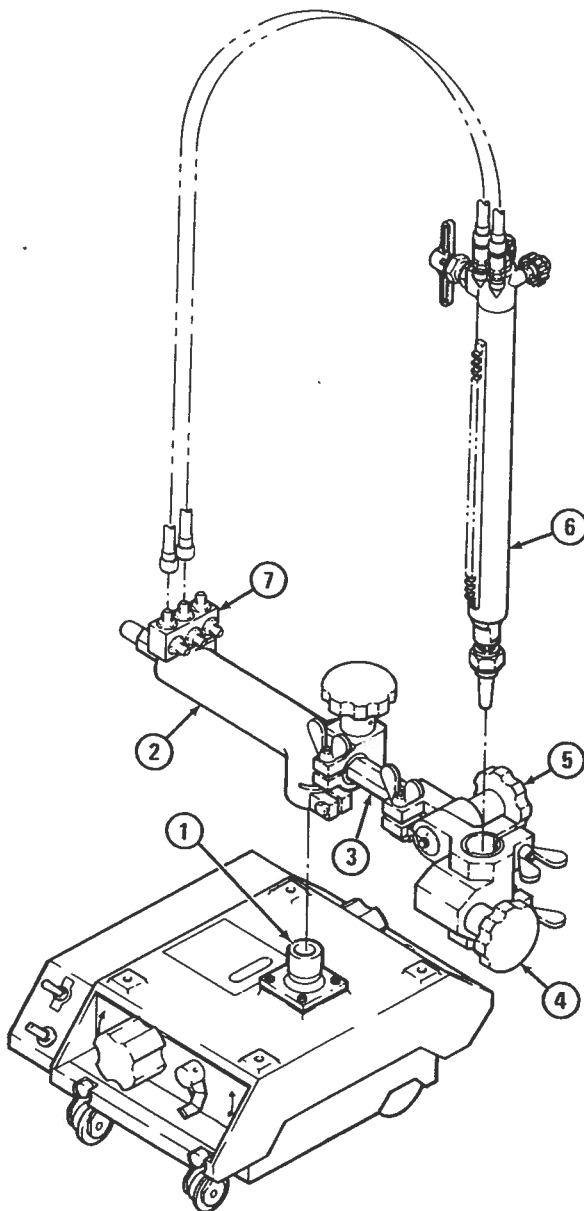

Figure 2-1. Pre-Operation Set-Up
Set-up of the VCM-100 with standard torch mount and manifold block is shown in Figure 2-1. The single torch mount post (1) is secured to the outer case mounting surface with four allen-head cap screws. The rack handle assembly (2) is slipped over the torch mount post and secured with its set-screw.